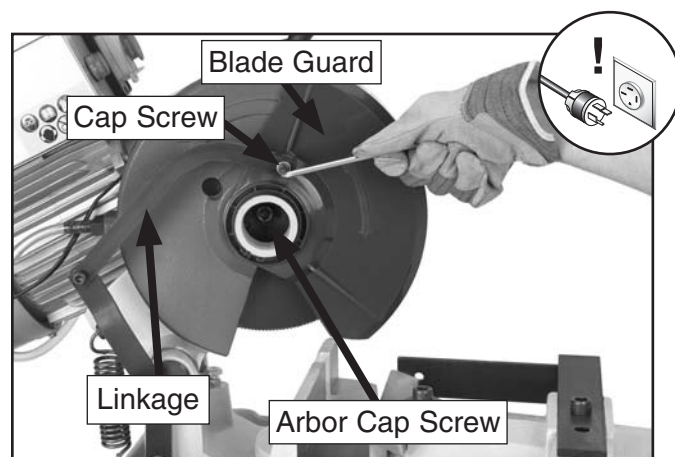

Figure 41. Removing guard linkage.
2. Disconnect the blade guard linkage by removing the cap screw that connects it to the saw guard (**Figure 41**).